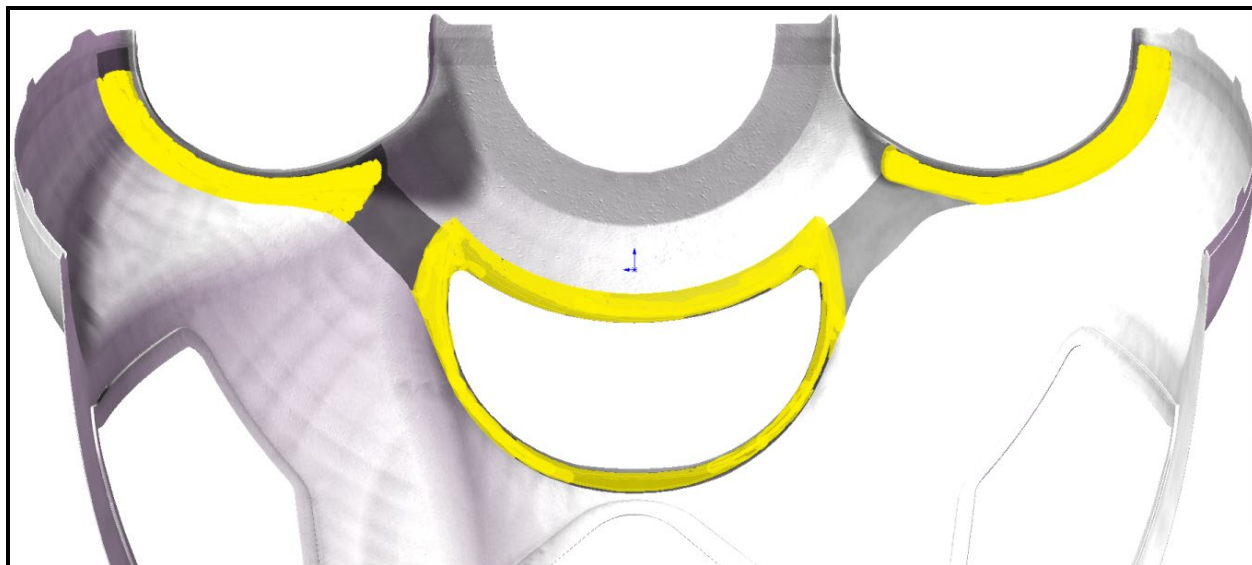

Figure 5 - Possible Lower Cowl Chafing Locations
9. Locate zones of lower cowl that have evidence of chafe from inlet baffles and apply protective film tape. See Figure 5 for possible location guidance.